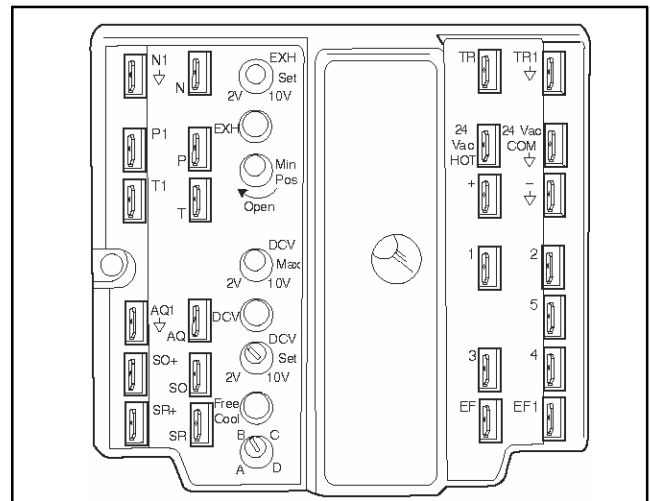
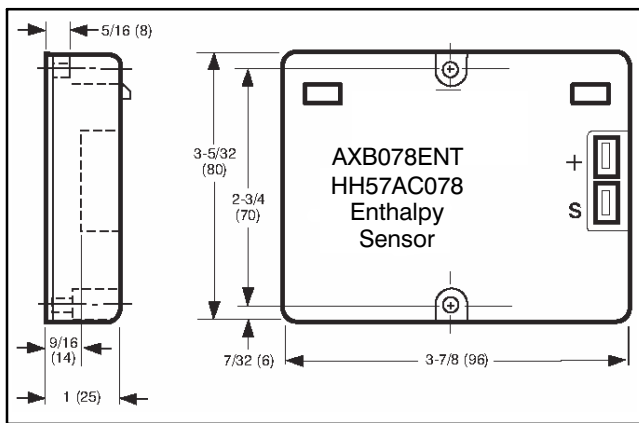
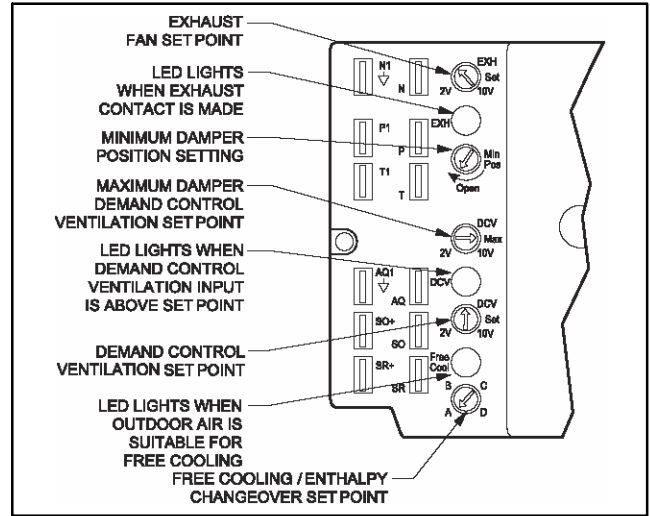

Fig. 2 – Economizer Controller (Honeywell W7212)
Fig. 3 – Enthalpy Sensor Specifications
Fig. 10 – Economizer Controller Potentiometer and LED Locations
and “SO” (yellow). (See Fig. 2.) Connect the wires to the enthalpy sensor. Connect the yellow wire to the “S” terminal and the pink wire to the “+” terminal on the enthalpy sensor. (See Fig. 3.)
5. Pick up the black and red wires left hanging from Step 2 and connect them to the enthalpy sensor. Connect the red wire to the sensor’s “S” terminal and the black wire to the sensor’s “+” terminal. See Fig. 3 for details.
6. Pick up the the black and red wires left hanging from Step 3 and connect them to the enthalpy sensor. Connect the red wire to the sensor's "S" terminal and the black wire to the sensor's "+" terminal. See Fig. 3 for details.
5. Connect the red wire to the "S" terminal and the black wire to the "+" terminal on the sensor. (See Fig. 2.)
6. Connect the red wire to the "SR" terminal and the black wire to the "SR+" terminal on the Economizer controller. (See Fig. 3.)
6. Connect the red wire, provided in the DNENTDIF004A00 kit, to the “S” terminal and the black wire, also provided, to the “+” terminal on the sensor. (See Fig. 2.)
7. Connect the red wire to the “SR” terminal and the black wire to the “SR+” terminal on the Economizer controller. (See Fig. 3.)
When the outdoor air enthalpy rises above the adjustable free cooling/enthalpy changeover set point, the outdoor--air damper moves to its minimum position. The free cooling/enthalpy changeover set point is set with the free cooling/enthalpy changeover set point potentiometer on the Economizer controller. The set points are A, B, C, and D. (See Fig. 10 and 11.) The factory--installed 620--ohm jumper must be in place across terminals SR and SR+ on the Economizer controller. (See Fig. 2.)